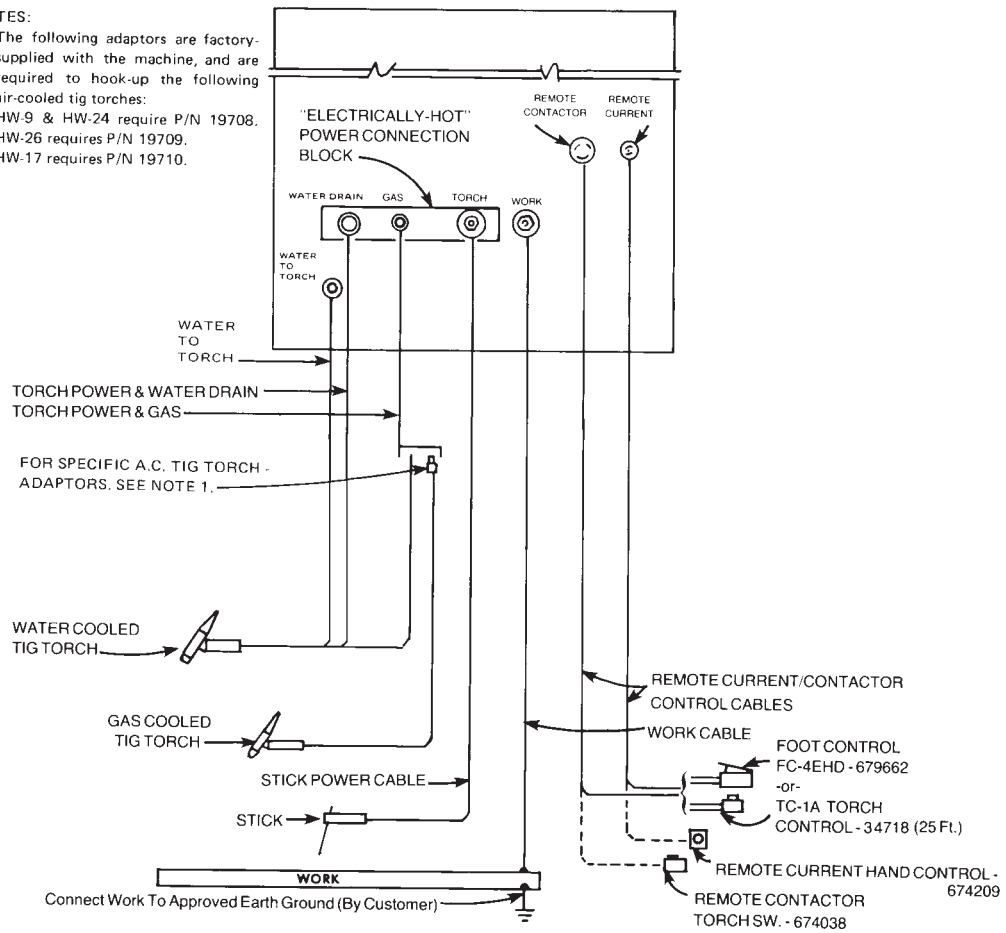

Figure 2-2. Interconnection Diagram
- A. A line (wall) disconnect switch, with fuses or circuit breakers, should be provided at the main power panel (see Figure 2-2). The primary power input must have three insulated copper conductors (two power leads and one ground wire). The wires may be heavy rubber-covered cable, or may be run in a solid or flexible conduit. Refer to table 2-1 for recommended input conductors and line fuse sizes. **Do not connect the input conductors until step C.**
- C. Thread the input conductor cables from the wall disconnect switch through the strain relief hole in the rear panel (see Fig. 2-2). Secure the cables with the strain relief coupling provided, and then connect conductors to terminals L1 and L2 (on the input terminal board) using UL listed pressure wire connectors. Connect the ground wire to the grounding stud provided on the chassis base near the input terminal board.
Refer to Figure 2-2, for typical primary input, secondary output, process gas and water, and torch connections that are required for this unit's welding applications.
- J. WC-9 Coolant Circulator, P/N 33540,** is used for water cooled torch operation and is designed to be "free standing" in a convenient location near the torch. A four-gallon capacity tank provides 1.0 gal/min @ 50 psi, using 6 amps, 115 volts, 60 Hertz, 1-phase input. Since the circulator is designed to run continuously during a welding operation, never connect it to a power source that uses a solenoid controlled water supply that opens and closes with each operation of the welding contactor -- the cooling efficiency of the unit will be hampered and the starting winding in the pump motor may burn out. Refer to Figure 2-2 for suggested hose hookup.
- K. WC-8C Coolant Circulator, P/N 33739,** is used for water cooled torch operation and is designed to fit in a cylinder rack of a power source truck (item M). A 1.5 gallon capacity tank provides 1 gal/min @ 50 psi, using 6 amps, 115 volts, 60 Hertz, 1-phase input. Since the cooler is designed to run continuously during a welding operation, never connect it to a power source that uses a solenoid controlled water supply that opens or closes with each operation of the welding contactor -- the cooling efficiency of the unit will be hampered and the starting winding in the pump motor may burn out. Refer to Figure 2-2 for suggested water hose hookup.
1. Connect all welding cables to workpiece and electrode holder as shown on the Interconnection Diagram, Figure 2-2.
- a. Make the necessary welding power and service connections as shown on the Interconnection Diagram, Figure 2-2.